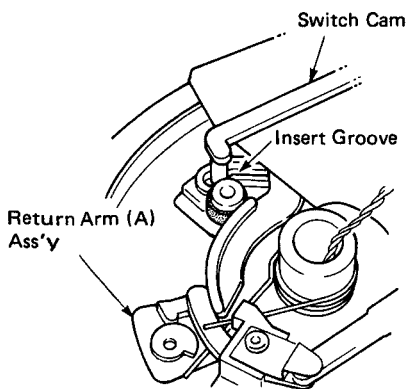

Fig. 6
- d. When mounting the Full Auto Mechanism, make sure to attach it to the Return Arm (A) Ass'y as shown in Fig. 6.